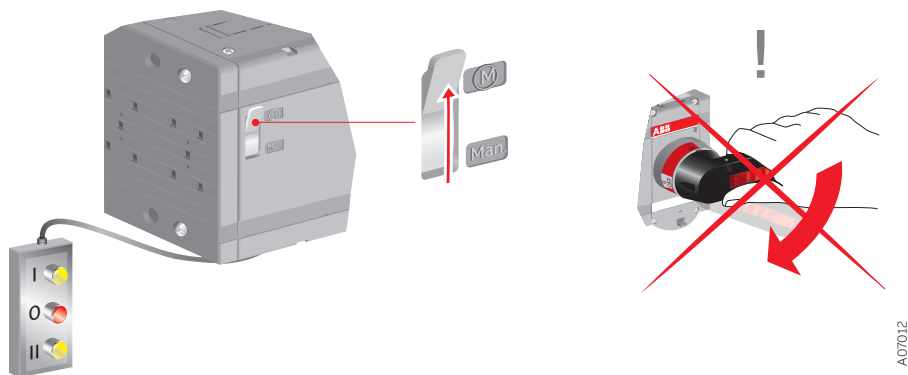

Figure 15.2 Motor/Manual selection disconnecter in the Motor (M) position
- Turn the Motor/Manual selection switch to the Motor (M) position, see Figure 15.2.